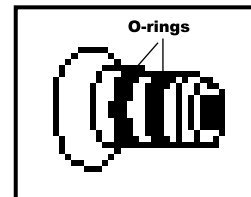

Figure 21
- Remove the Crystal Capsule™ and inspect the Vacuum Post o-rings for any damage. If damaged, carefully cut off the defective o-rings and install two new o-rings. Do not stretch the o-rings further than necessary. Roll the o-rings onto the posts evenly and gently (fig. 21).